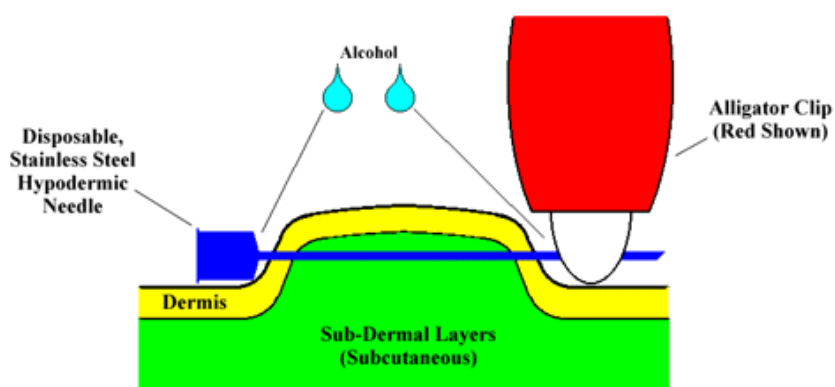

Figure 3. Electrode insertion using disposable hypodermic needle
2. Gently “bunch” the animal’s skin at the desired electrode site, then insert the first of the three needles subcutaneously through the skin fold so that 1/4" to 3/8" (6mm to 10mm) of the needle’s length protrudes out the other side (Figure 3). **MAKE SURE** that the needle goes **BELOW** the skin tissue to allow the needle to contact the sub-cutaneous “live tissue” under the skin!